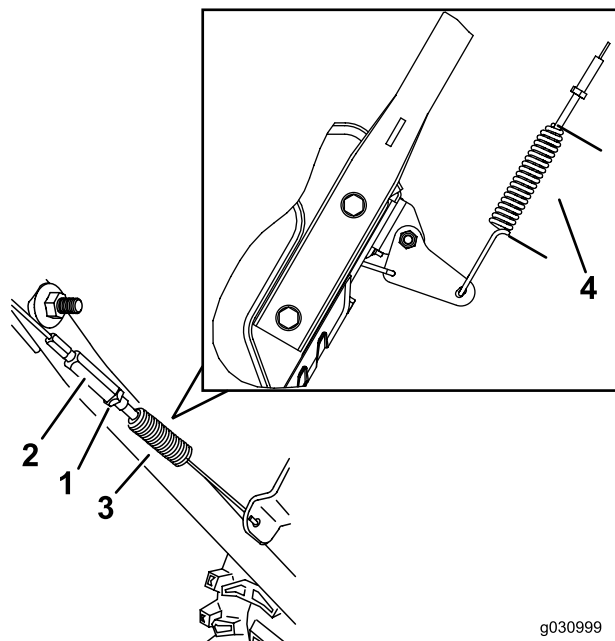

Figure 29
4. Tighten the jam nut (Figure 29), ensuring that there is slight tension on the cable.
3. Loosen or tighten the turnbuckle to adjust the spring length to 5.5 cm (2–3/16 inches) as shown in Figure 29.